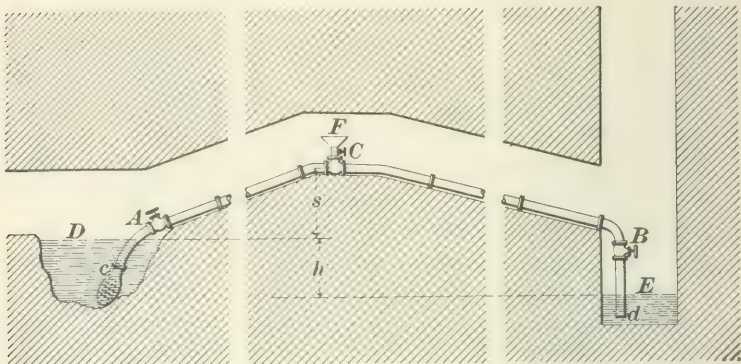

FIG. 23.
65. Fig. 23 shows the actual construction of a siphon. It is desired to convey the water from D to E . The point of discharge must always be lower than the point from which the water is taken, otherwise a siphon cannot work. The siphon consists of ordinary iron pipe jointed in any convenient manner so as to be air-tight. It has three valves A , B , and C . The suction end is provided with a perforated strainer c to keep out large particles of foreign matter.